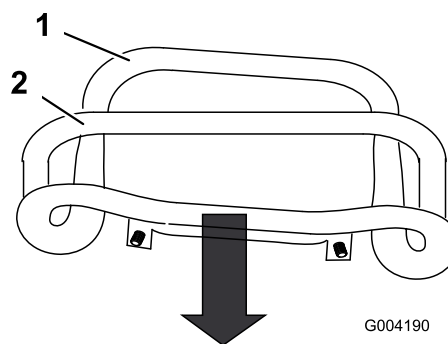

Figure 51
3. Pull back the traction control so that the front of the control contacts the reference bar (Figure 51).